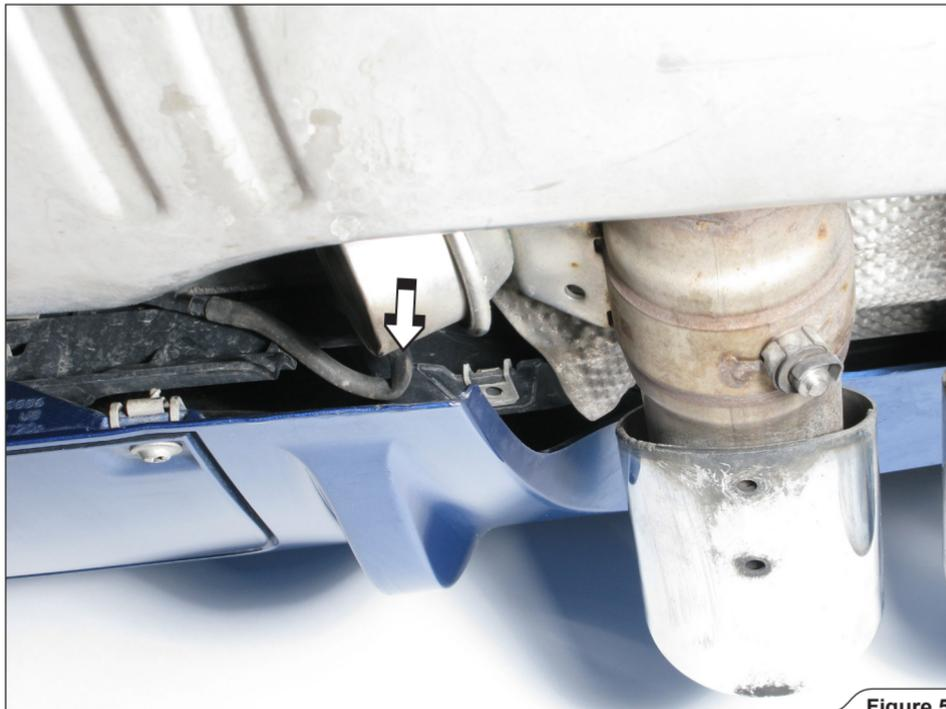

Figure 5
5. Pull the vacuum hoses off both vacuum actuators (**Figure 5**).